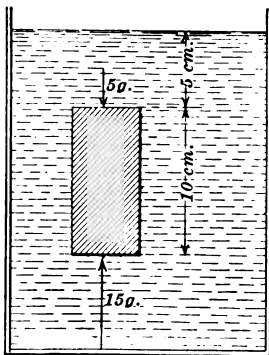

FIG. 60. — Lifting effect of water on submerged block.
**66. Explanation of Archimedes' principle.** This principle will be readily understood from the following example. Suppose we place a rectangular block in a jar of water, as shown in figure 60. Let the block be  $10 \times 6 \times 4$  centimeters and let the top be 5 centimeters below the surface of the water, and the bottom 15 centimeters beneath the surface. Then the pressure on top, that is, the downward push on each square centimeter, is 5 grams and the pressure on the bottom, that is, the upward push on each square centimeter, is 15 grams. Since the top and bottom each have an area of  $6 \times 4$ , or 24 square centimeters, the whole upward push on the bottom is  $24 \times 15$ , or 360 grams, while the whole downward push on the top is only  $24 \times 5$ , or 120 grams. This leaves a net upward force or buoyancy of 240 grams. But this is exactly the weight of the displaced water, for the volume of the displaced water is  $10 \times 6 \times 4 = 240$  cubic centimeters, and we have seen in section 11 that this much water weighs 240 grams.